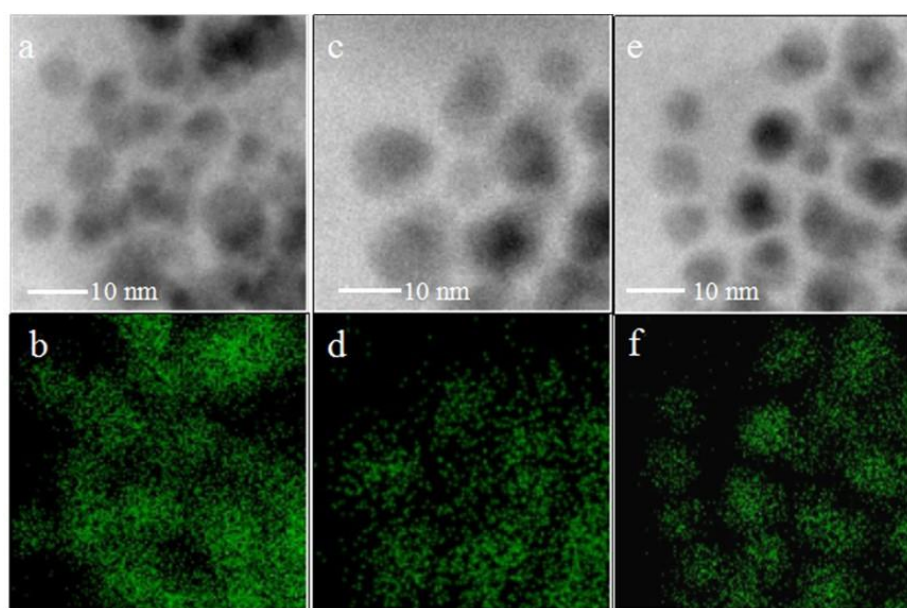

Fig. S7 The image of scanning transmission electron microscope (STEM) and Ni mapping data of Ni@C-400 (a, b), Ni@C-500 (c, d) and Ni@C-600 (e, f).
- VII. **Fig. S7** The image of scanning transmission electron microscope (STEM) and Ni mapping data of Ni@C-400 (a, b), Ni@C-500 (c, d) and Ni@C-600 (e, f).